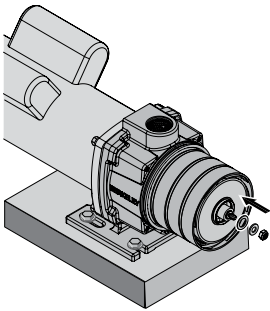

Figure 26
6. Reinstall the toothed washer, the flat washer, and the impeller nut (in that order – Ref. Nos. 12,13,14) onto the motor shaft (see Figure 26). Hold the shaft and tighten the impeller nut to 10 ft.-lbs. torque.